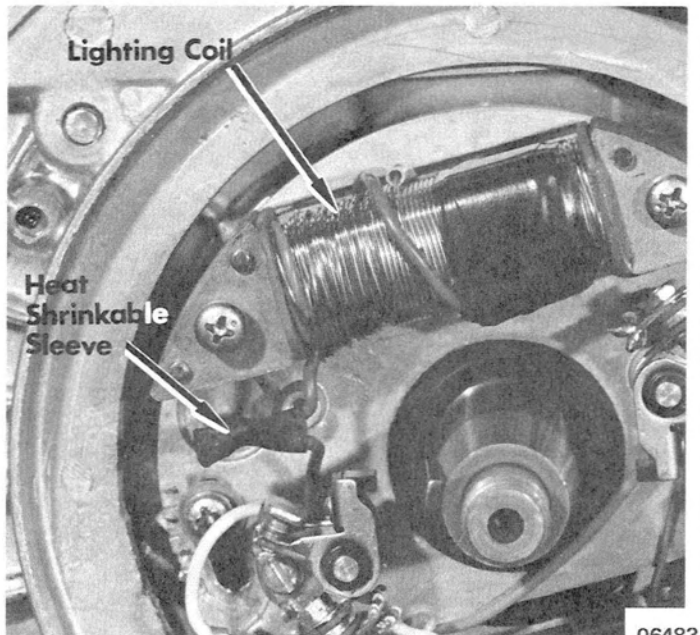

Figure 5. Sleeve Installed on Splice
2. Cut yellow (2) lighting coil leads as close to lighting coil as possible and remove coil.
3. Solder yellow leads from lighting coil to yellow leads from tab housing with resin flux solder and protect with heat shrinkable sleeve or friction tape. (Figure 5)